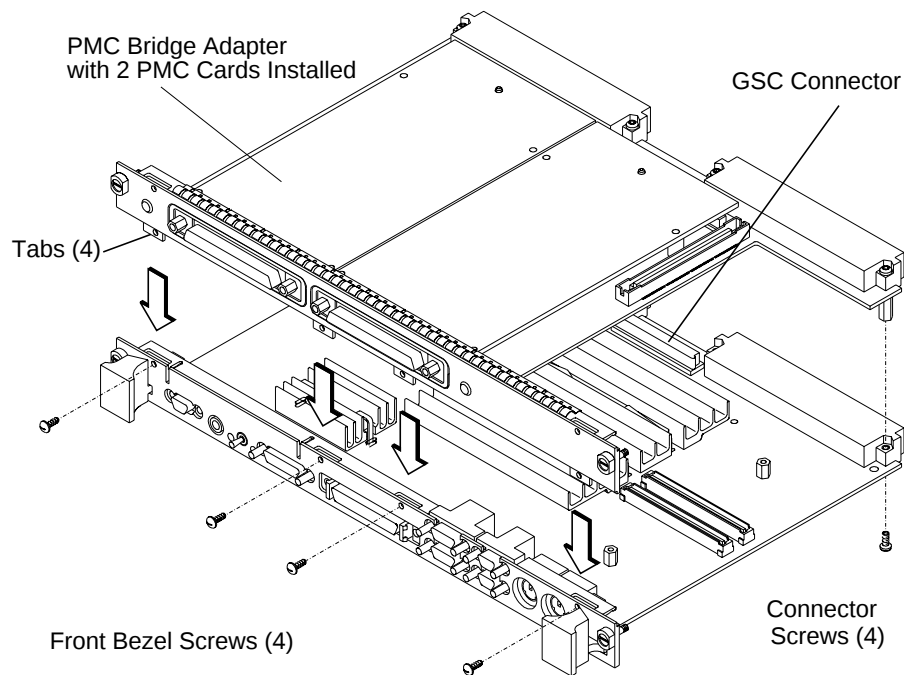
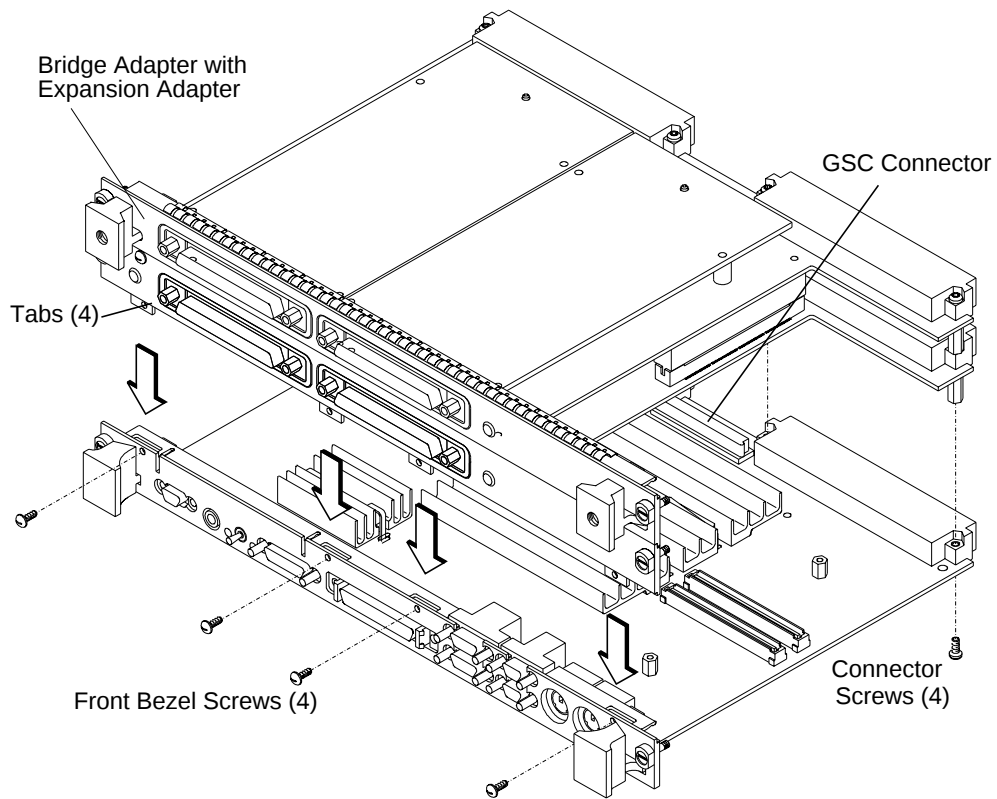

Figure 2-10 **Installing the PMC Bridge Adapter onto the Board Computer**
Figure 2-11 **Installing the Bridge Adapter with the Expansion Adapter onto the Board Computer**
- 7 The bridge adapter should NOT be assembled to the board computer. If it is, remove it by reversing the steps shown in Figure 2-10.
- 11** Install the PMC bridge adapter (as shown in Figure 2-10) or the bridge adapter with expansion adapter (as shown in Figure 2-11) onto the board computer. Align the GSC connector first, then the tabs on the front panel, and push the boards together. There are four screws that secure the front bezel, and four screws that secure the VME connectors.